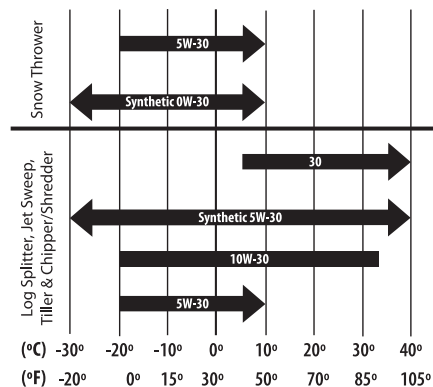

Figure 6-1
Refer to the viscosity chart ("Figure 6-1") for oil recommendations. Do not over-fill. Use a 4-stroke, or an equivalent high detergent, premium quality engine oil certified to meet or exceed U.S. automobile manufacturer's requirements for service classification of a minimum level SF or SG (higher letter ratings are acceptable such as SJ, SL and SM grades). Engine oil will display this designation on the container.
12. Fill with the recommended Oil. See "Figure 6-1".